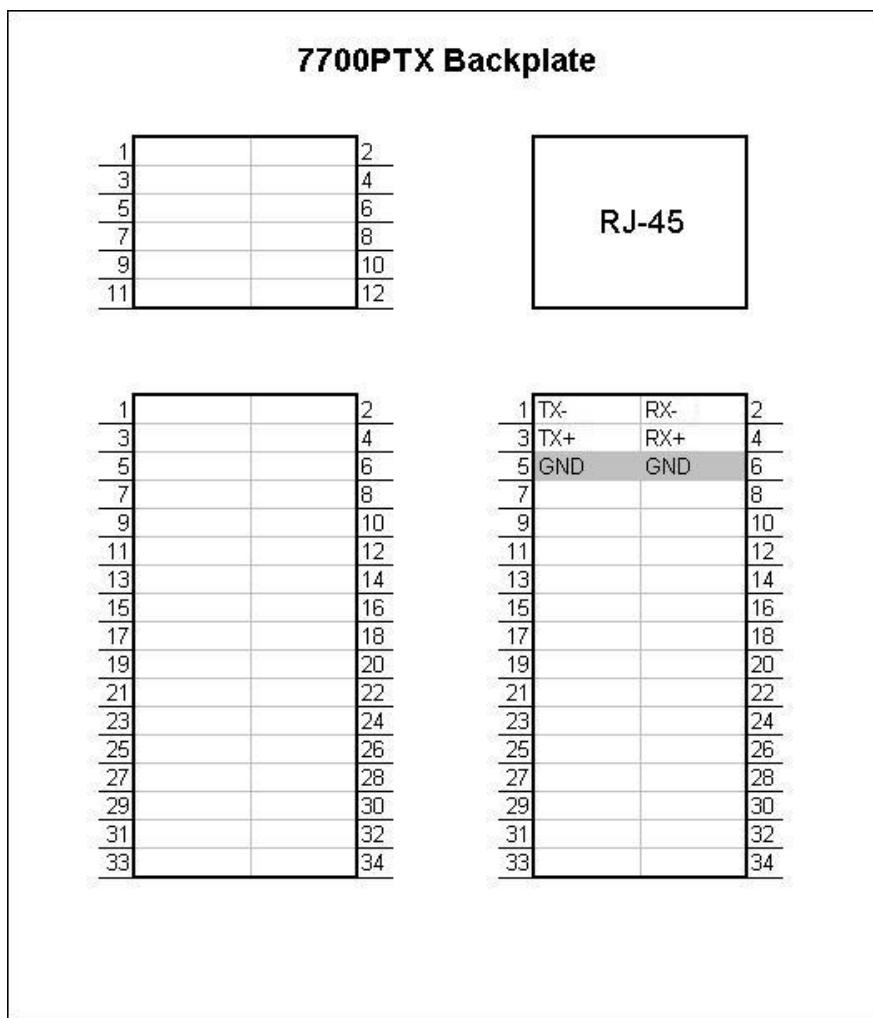

Figure 2-2: RS-422 Pins
2. Connect the RS-422 pins of the 7700PTX-MVS to those of the switcher. See Figure 2-2 and Table 2-1.